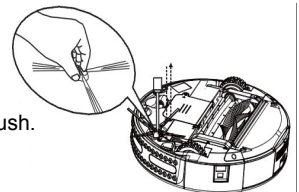

Fig. 4
2. Press the new side brush against the main shaft, and then fasten the screw. (see Fig. 4)